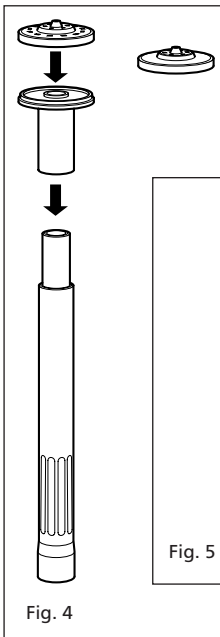

Fig. 4
- Select the desired fountain accessory. The 2 and 3 tier fountainheads simply snap onto the fountain stem (See Fig 4). The fountain stem pushes into the narrower tube section of the telescopic fountain stem (See Fig 4). Then place the pump in the desired position. Note: Check that the inner stem of the telescopic tube has not been pushed inside the outer tube.